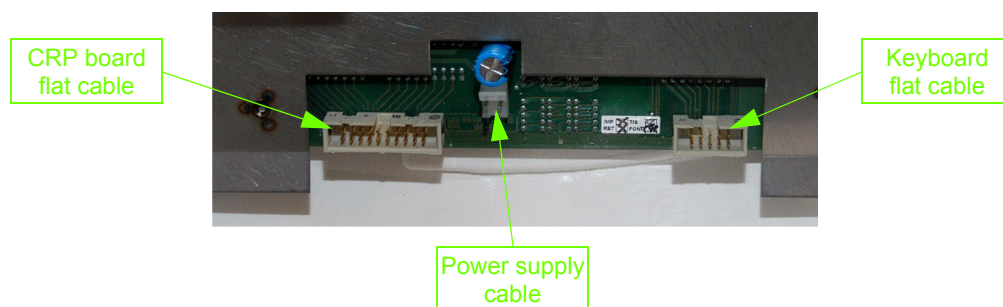

Fig.5: Display board connections
- ◆ Connect the 2 flat cables and the power supply cable on the Display board (See "Fig.5: Display board connections, page 3").